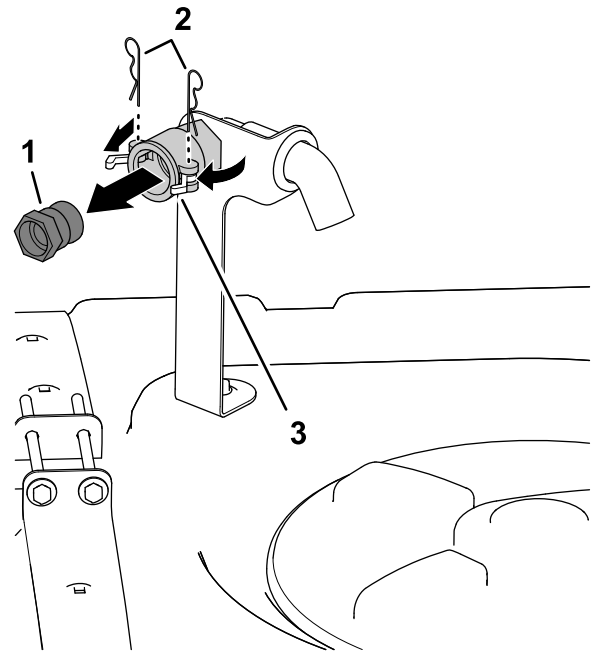

Figure 4
1. At the forward, right side of the tank cover, remove the 2 hairpins that secure the latches for the quick-disconnect coupling for the anti-siphon fill receptacle (Figure 4).
2. Rotate the latches open to unlock the quick-disconnect fitting from the quick-disconnect coupling (Figure 4).
3. Remove the quick-disconnect fitting from the quick-disconnect coupling (Figure 4).
4. Close the latches and install the hair pins into the flanges of the quick-disconnect coupling (Figure 4).